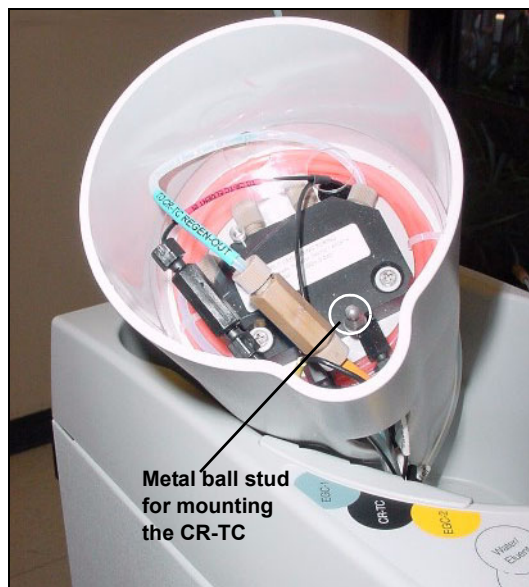
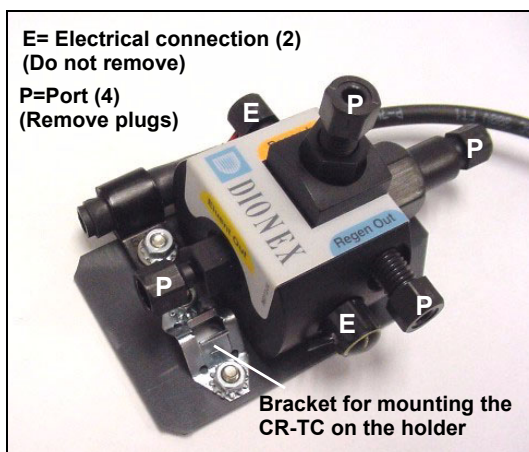

Figure 28. Cartridge Holder (tilted to view the bottom)
Figure 29. CR-TC
1. Tilt the cartridge holder to view the bottom of the holder and brace the holder against the back corner of the ICS-2000 (see Figure 28).
2. Before installing the CR-TC, note the metal ball stud inside the bottom of the cartridge holder (see Figure 28) and the bracket on the CR-TC mounting plate (see Figure 29). These are used to mount the CR-TC inside the holder after it is plumbed.
3. Remove the plugs from the four ports, labeled “P” on Figure 29. **Do not remove the two electrical connections, labeled “E” on the figure.**